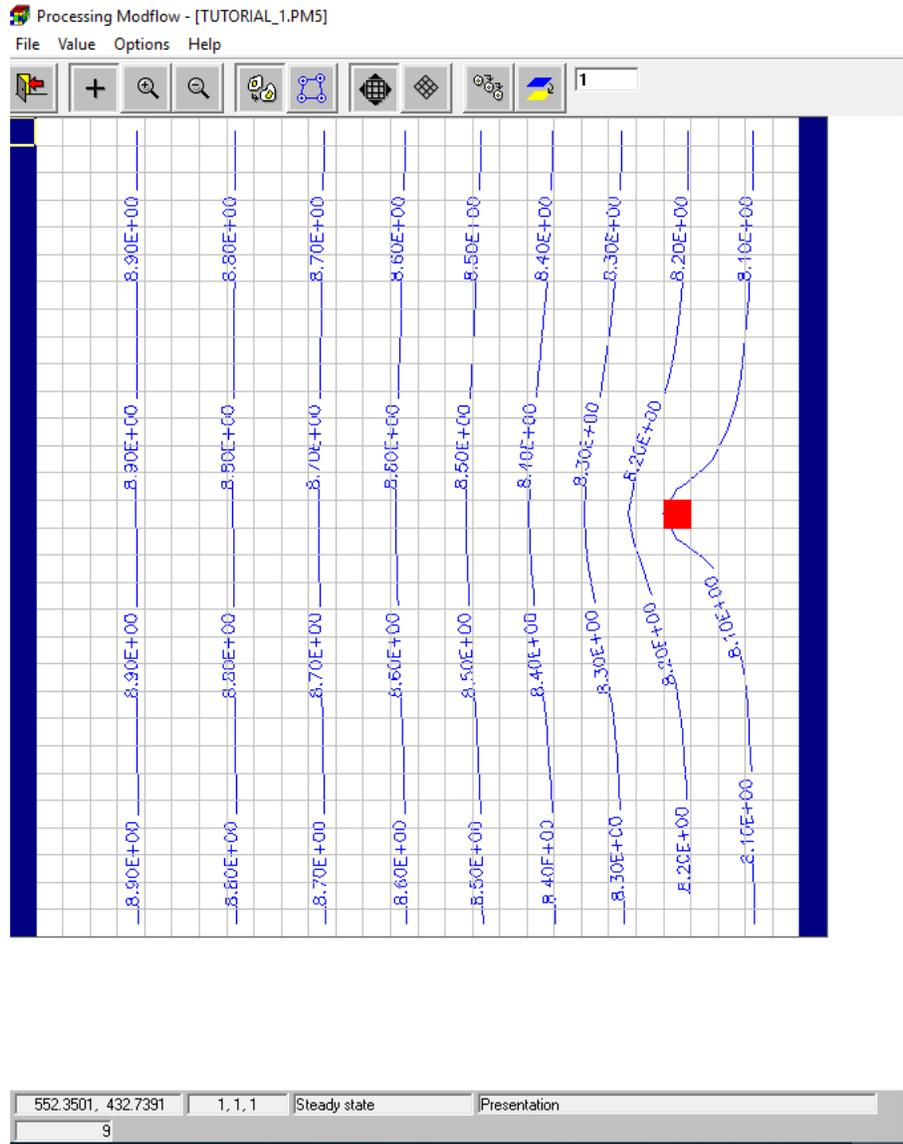

Fig. 1.14. Contours of the hydraulic heads in the first layer
8. In the **Environment Options** dialog box, Click **OK**. PMWIN will redraw the model and display the contours (Fig. 1.14).